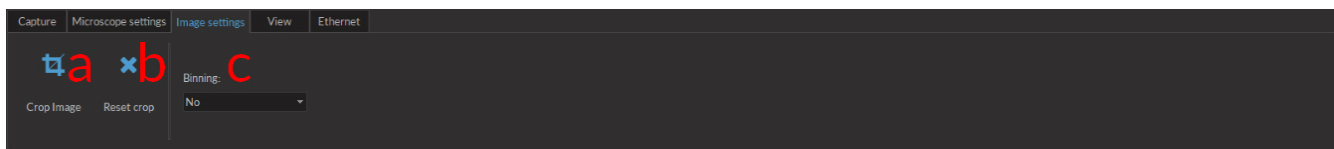

Figure 3.54: Image Settings Tab
- a) The **Crop Image** button (Fig. 3.54) allows a square to be drawn onto the image. When a new **Capture** sequence is activated, only the cropped region will be captured.
- b) The **Reset crop** button (Fig. 3.54) resets the cropped image to its original state. The change will only appear when a new **Capture** sequence is activated.
- c) The **Binning** drop-down list (Fig. 3.54) allows the binning of pixels. This reduces the number of pixels for smaller save file sizes.